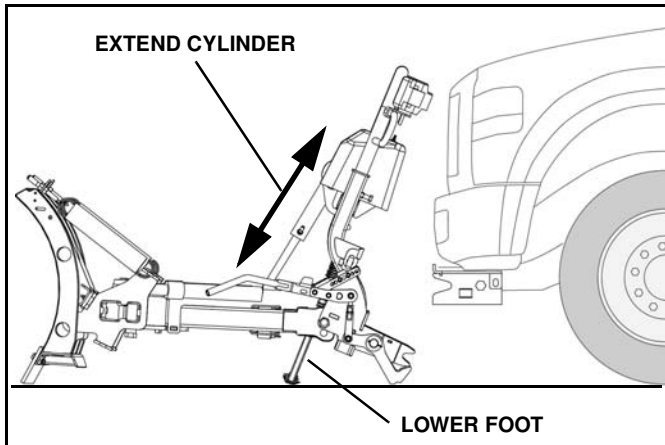

Figure 1-25
2. Using Down Pressure™, extend the cylinder (lower the plow) until the lift cylinder is fully extended. Lower the foot. (See Figure 1-25).